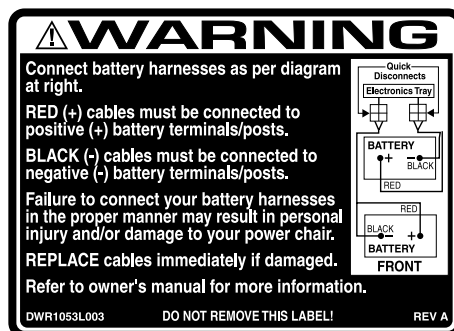

Figure 17. Battery Wiring Diagram
- Check all electrical connections. Make sure they are tight and are not corroded. Batteries must sit flat within the battery well, with the battery terminals facing inward, toward each other. Refer to the frame decal for the correct wiring layout. See figure 17.
11. Place the batteries in the power base. Make sure that the terminals are facing the correct direction. See figure 17.